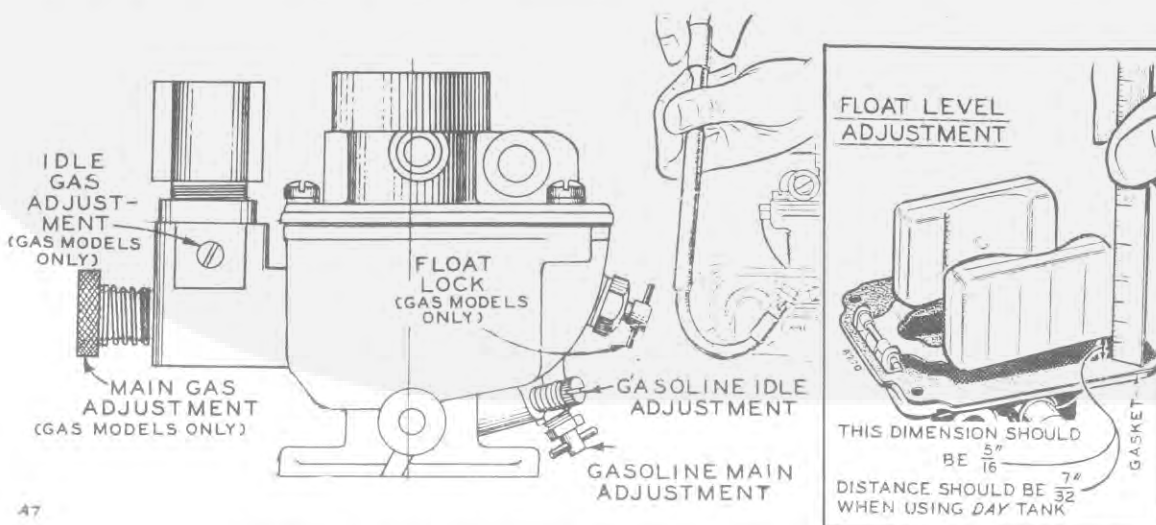

FIG.22- CARBURETOR ADJUSTMENTS
**CARBURETOR ADJUSTMENTS.** - The carburetor has adjustable main and idling jets. It is simple in construction and normally needs little attention other than a good cleaning once in a while. If the engine runs unevenly at half or full load due to faulty carburetion, the main adjustment needs correcting. See Fig.22. Adjust while the plant is running at normal operating temperature and carrying almost a full load. Turn the main adjusting needle out about two full turns. Slowly turn it in until the engine begins to lose power and speed. Turn it out very slowly until the engine runs at maximum power and speed. Onan carburetor wrench # 420A169 can be purchased from your Onan dealer for easier adjustment of carburetor.
The engine should be running at normal operating temperatures and carrying no load when adjusting the idle jet needle. See Fig.22. Turn the needle in until the engine loses considerable speed. Turn the needle out until the engine runs smoothly. The correct setting is about  $3/4$  to 1 turn open.